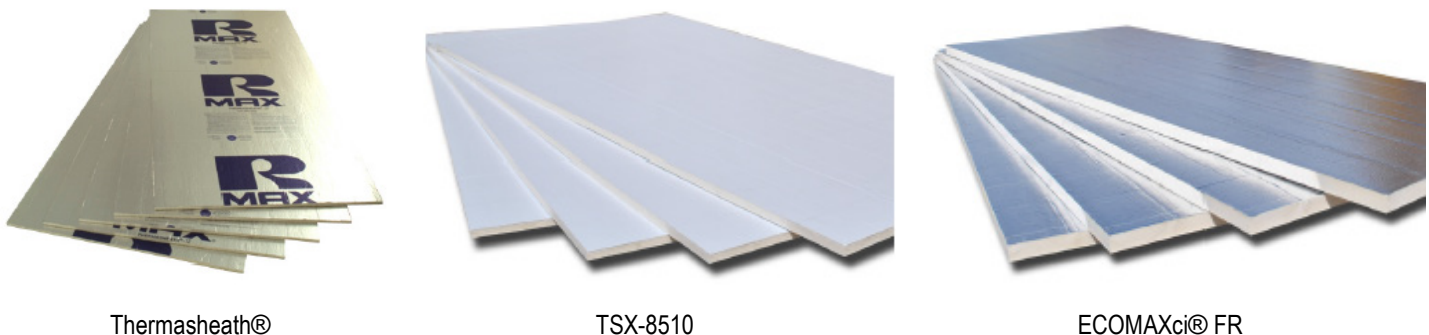

FIGURE 1. THERMASHEATH®, TSX-8510, AND ECOMAXci® FR
- 4.1 Thermasheath®, Thermasheath®-XP, TSX-8500, TSX-8510, ECOMAXci® FR, and ECOMAXci® FR WHITE, pictured in Figure 1, are non-structural foam plastic insulating sheathing (FPIS) panels consisting of a closed-cell rigid polyisocyanurate (polyiso) foam core bonded to various facers (ASTM C1289 Type I, Class 1 and Class 2).